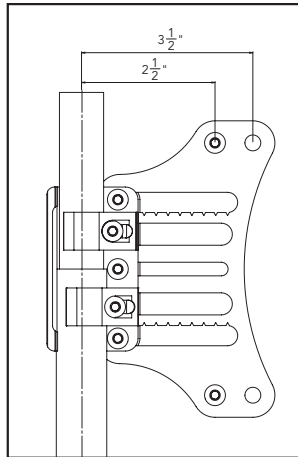

Fig. 2: Quickfit clamp in forward most position.
The configuration can be changed by orienting the Quickfit cane clamp forward, providing a forward mounting position. See figure 2 below.
- Install clamp as shown in Fig. 2